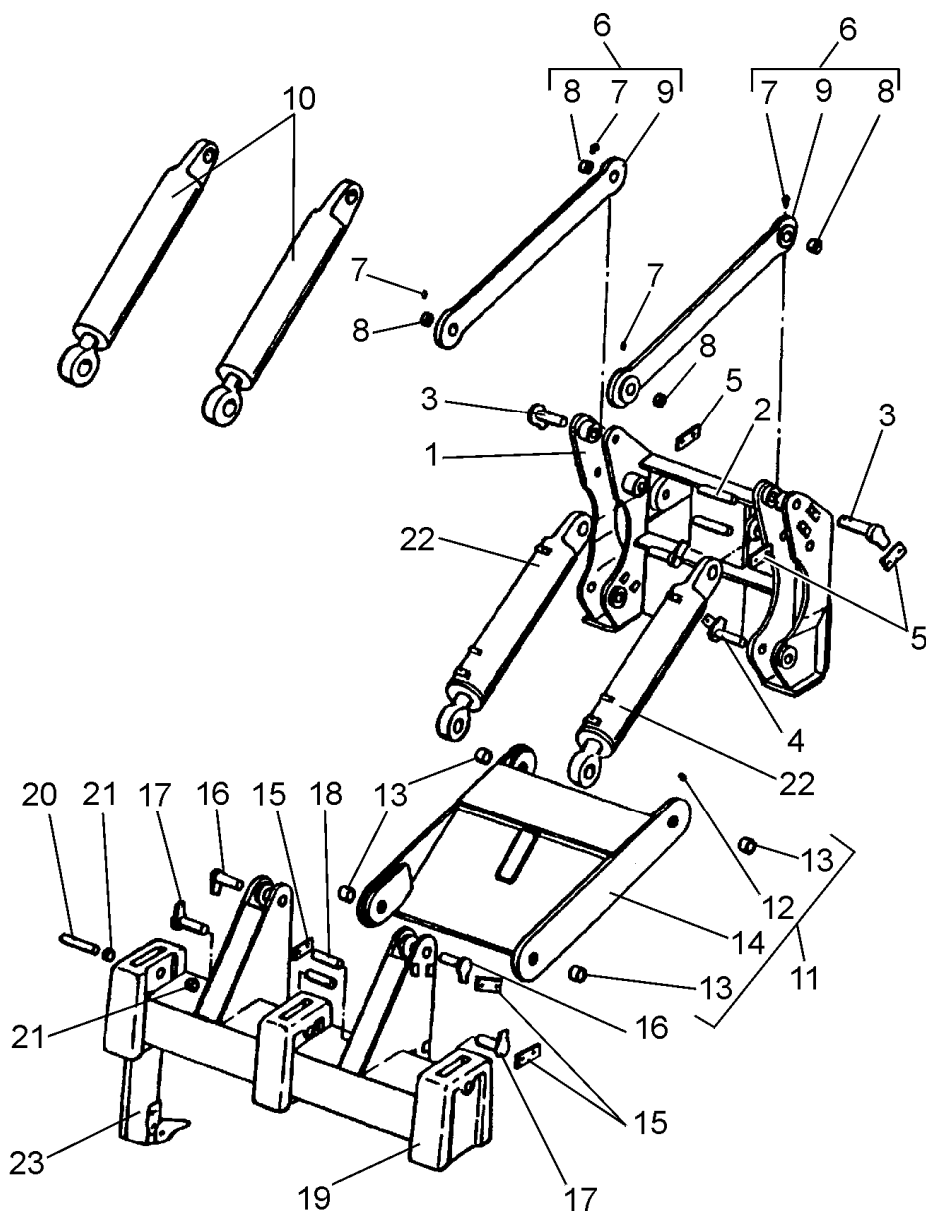

Fig. 17.11. Multi Shank Ripper
16. REMOVAL (Refer to Fig. 17.11)
1. With Connecting Link (6); Position suitable blocking under draft frame (11) and tool beam (19). Attach hoist to link and take out slack. Remove hardware securing pins (3 and 16) at mounting frame (1) and tool beam (19) and lift link (6) off of ripper. Reinstall mounting pins (3 and 16) in mounting frame (1) and tool beam (19).
2. With Ripper Pitch Cylinder (10); Position suitable blocking under draft frame (11) and tool beam (19). Remove pitch cylinder, refer to SECTION 10C, CYLINDERS. Reinstall mounting pins (3 and 16) in mounting frame (1) and tool beam (19).
3. Remove ripper lift cylinders (2), refer to SECTION 10C, CYLINDERS.
4. Attach hoist to cylinder mounting pins (16) at tool beam (19) and take out slack in hoist. Remove draft frame pins (17) and lift tool beam (19) from ripper. Remove shanks if necessary.
5. Attach hoist to draft frame (11) and take out slack in hoist. Remove draft frame pins (4) and lift draft frame from ripper.
6. Attach hoist to cylinder mounting pins (3) at mounting frame (1) and take out slack in hoist. Remove mounting hardware and lift frame from machine.
17. CONNECTING LINK (Refer to Fig. 17.11)
1. Remove the old connecting link bushing (8) from connecting link (6).
2. Position connecting link (6) in press. Place new bushing (8) in connecting link (6) and press in. Repeat for other bushings. Remove connecting link from press. Coat inner surfaces of bushings with fresh grease.
18. DRAFT FRAME (Refer to Fig. 17.11)
19. INSTALLATION (Refer to Fig. 17.11)